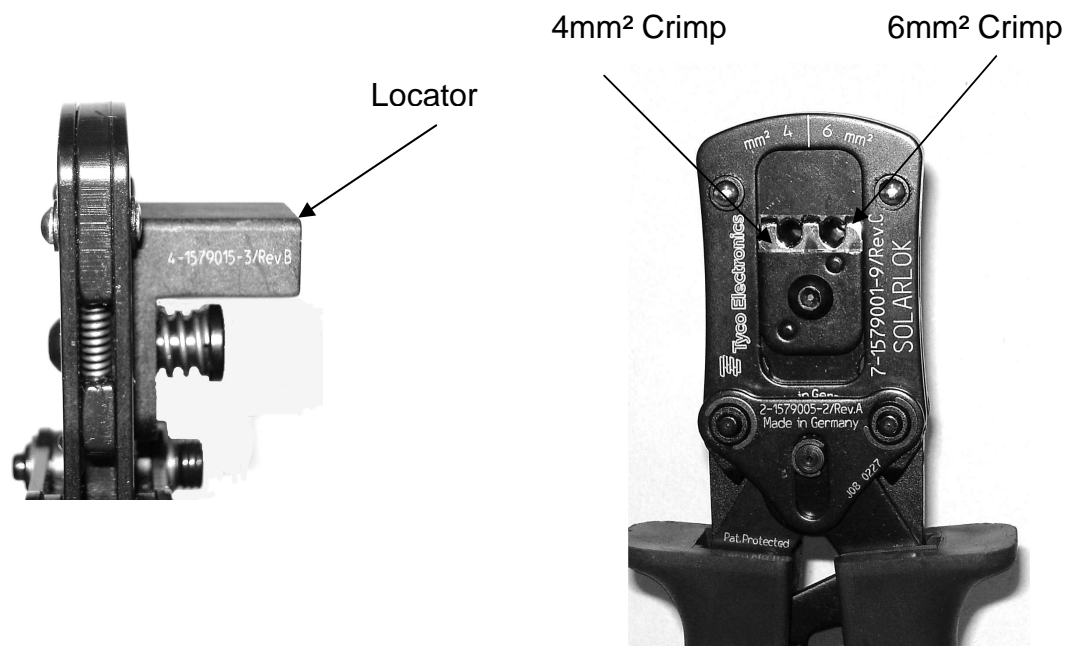

Fig 4 Designations at the Crimping Tool (e.g. Hand tool TE-PN: 1-1579004-2 (see Table 3 SOLARLOK Tools)
1) Insert the contact according to its crimp cross-section into the locator (See Fig 4).